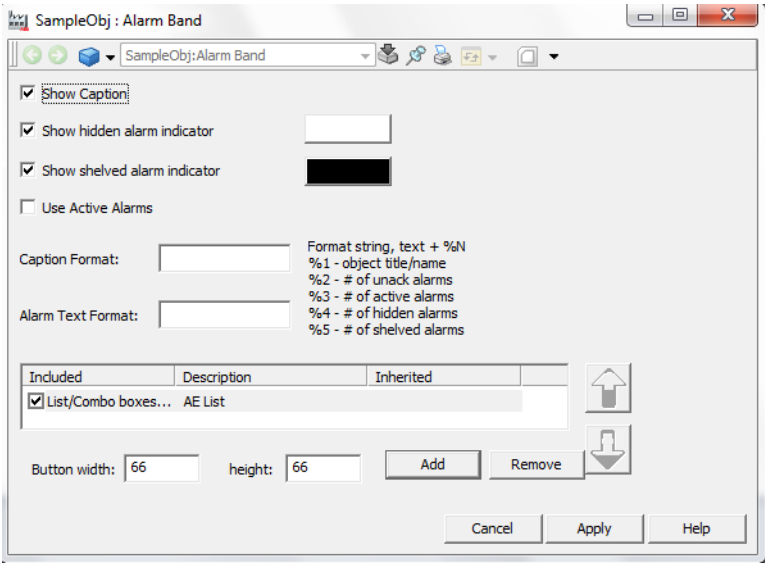
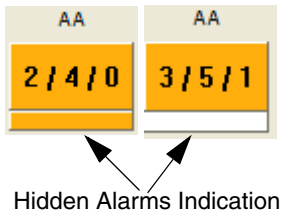

Figure 66. Alarm Band Aspect - Config View
Figure 67. Hidden Alarms Indication
2. Create an Alarm Band aspect and open its Config View, see Figure 66.
The result of the configuration according to Figure 66, is displayed in Figure 67.
**Hidden Alarms in the Alarm Band.** The alarm band shows an indication of hidden alarms. It indicates the fact that alarms are hidden and it provides a link to open the list of Hidden alarms. In Figure 67 the alarm band to the left indicates that there are 2 unacknowledged, 4 active and 0 hidden alarms and the band to the right indicates